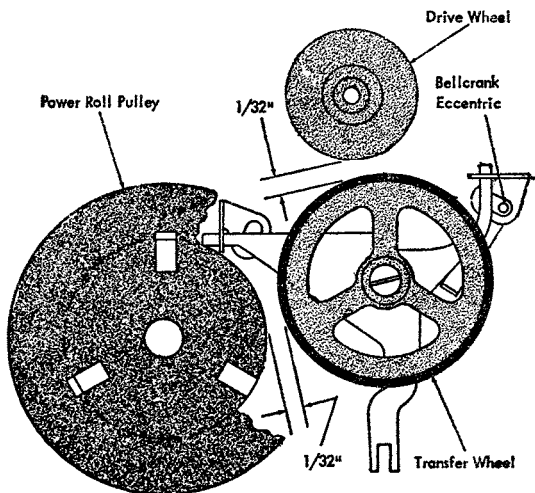

Figure 46. *Transfer Wheel Adjustment*
**19. TRANSFER WHEEL.** With the rewind lever latched down adjust the transfer wheel, by positioning its mounting, so it clears the drive wheel by  $\frac{1}{32}$ " (Figure 46).
**20. TRANSFER WHEEL BELLCRANK.** With the rewind lever latched position the bellcrank-eccentric mounting-stud so that the transfer wheel clears the flange on the power roll pulley by  $\frac{1}{32}$ " (Figure 46).